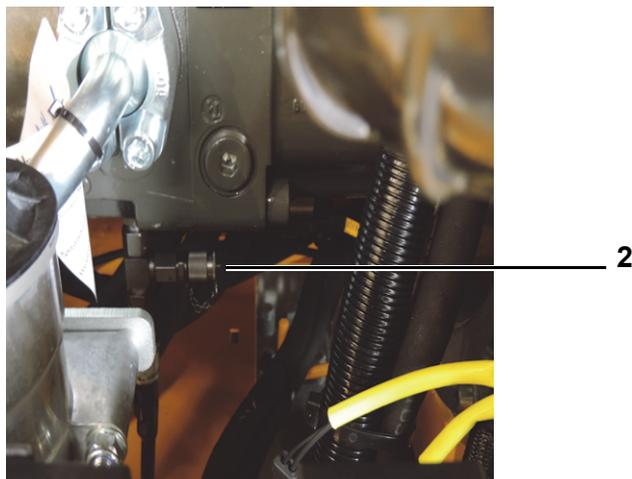

Fig. 207 M1 measurement connection
| 4 | Connect the pressure gauge (up to 600 bar) to the M1 measurement connection (2) in Fig. 207. |